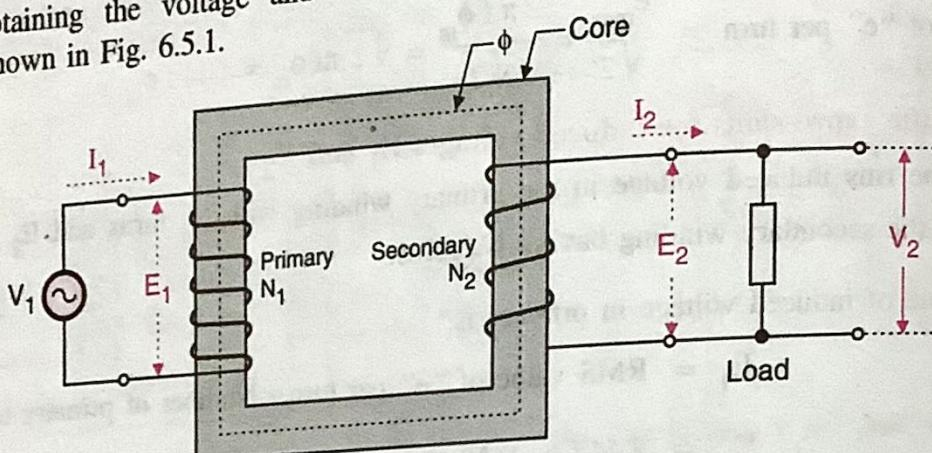

Fig. 6.5.1 : Elementary single phase transformer
For obtaining the voltage and current ratios of a transformer, consider the elementary transformer shown in Fig. 6.5.1.
- Assume the load on the secondary winding in Fig. 6.5.1 is now disconnected. Hence the secondary current  $I_2 = 0$ . Hence the load terminal voltage  $V_2$  of Fig. 6.5.1 is equal to secondary induced voltage  $E_2$ .